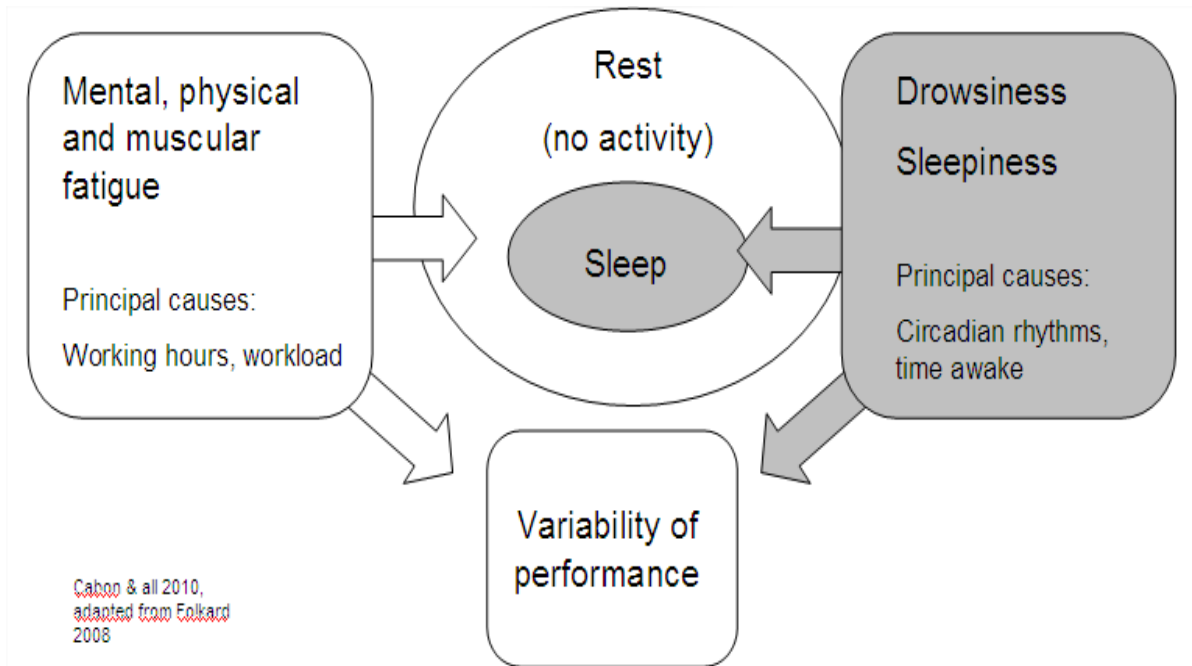

Figure 1: General definition of fatigue.
- (a) In a very general way, fatigue can be considered as a physiological and psychological state reflecting a need for recovery (Figure 1).